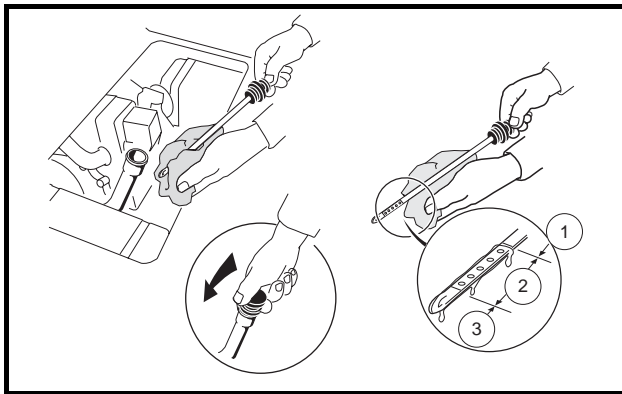

Figure 22 Engine Oil Level Check
1. Remove the oil level dipstick from the oil filler tube and wipe oil from dipstick (**Figure 22**). See following **CAUTION**.